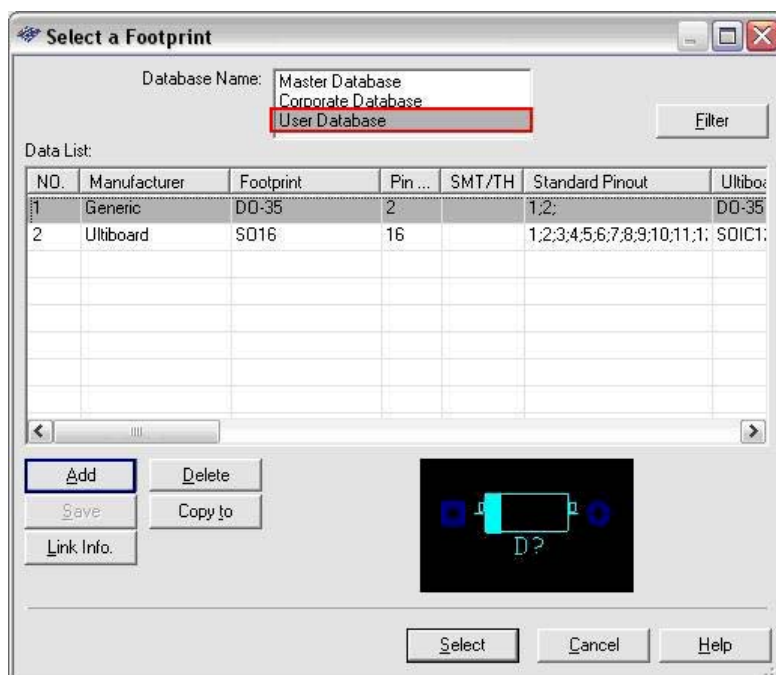

Figure 26 - Multisim Database Manager
h.) To add the landpattern click on the **Add** button (blue box in Figure 26).